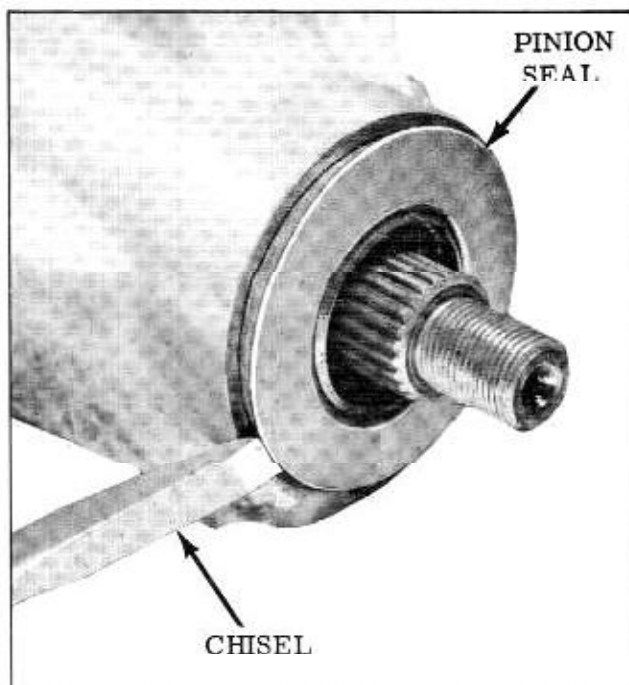

Figure 6-4 Removing Pinion Seal
2. Remove seal with a chisel. (Fig. 6-4)